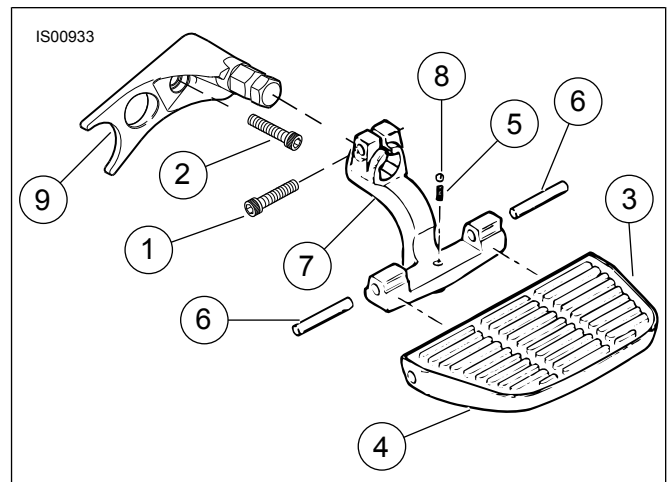

Figure 1. Service Parts: Softail Passenger Footboards
See Figure 1 and Table 1.
2. See Figure 1. Position footboard mount (9) and insert socket head capscrew (2) through part and into footpeg mounting hole.
4. Tighten footboard mounting screw (2) to 61–67.8 N·m (45–50 ft-lbs).
5. Position footboard support (7) on mounting stud so that bolt hole aligns with machined groove in stud.
6. Insert screw (1) through left side in split hub of footboard support (7). Thread into tapped hole (right side) of split hub.
7. Tighten screw (1) to 13.6 N·m (10 ft-lbs).
8. Insert spring (5) into retaining hole in footboard support (7). Rest ball (8) on top of spring.
9. Position footrest (4) onto footboard support (7). Be careful not to unseat ball (8).
10. Press down on footrest so holes align. Insert pivot pins (6) through footrest and through the two mounting lugs on footboard support. Check to be certain ball (8) is seated in detent at underside of footrest.
11. Moisten footboard insert (3) rubber tabs and the footboard (4) insert mounting holes with dish soap to ease installation.